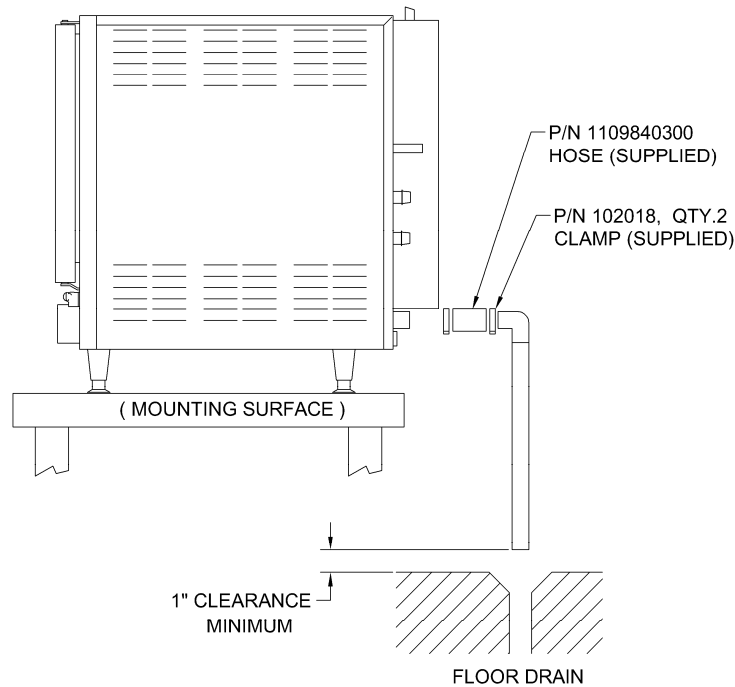

Figure 3-7
3. Free air venting requires a minimum 1” clearance between the end of the drain line and the top of the floor drain. See Figure 3-7.